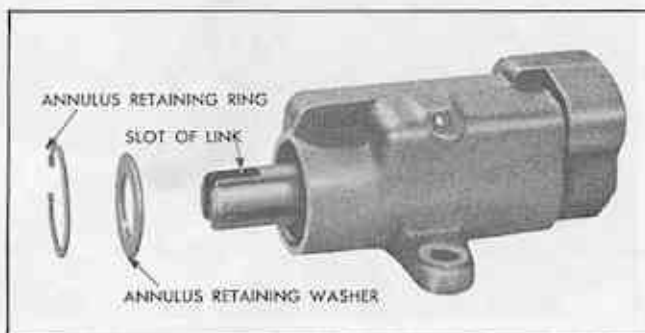

Fig. 54 Exploded View - Annulus Retaining Ring and Washer
1. Remove annulus retaining ring and annulus retaining washer using snap ring pliers J-4245 (Fig. 54). NOTE: Pliers can be used more effectively if spool assembly is turned to a position so that pivot of pliers can be moved into slot of link.